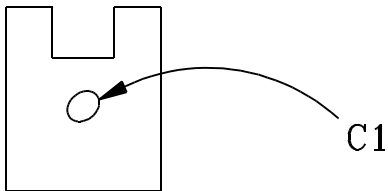

Figure 10
34. Click on PROJECT: SEL ELEM (towards the bottom of the detail menu), then click on C1 in any view. (See Figure 10.)